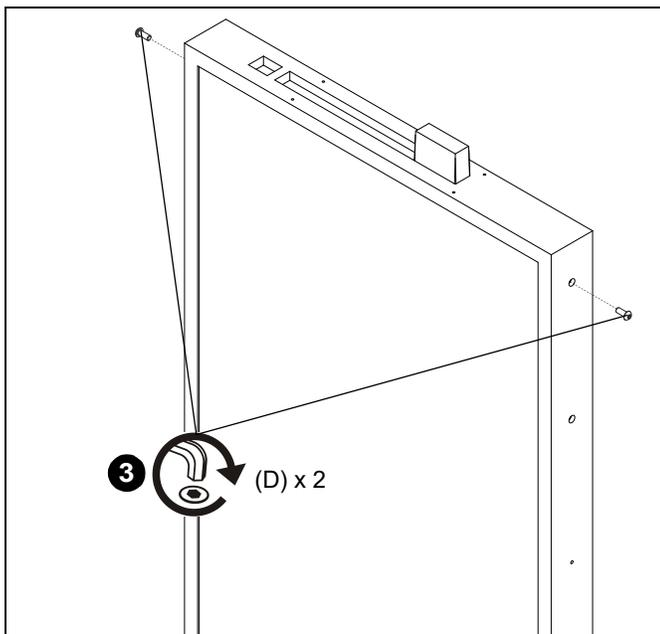

Figure 2
3. Install two M8x20mm button head cap screws (D) loosely into two top holes on side of display. (See Figure 2)